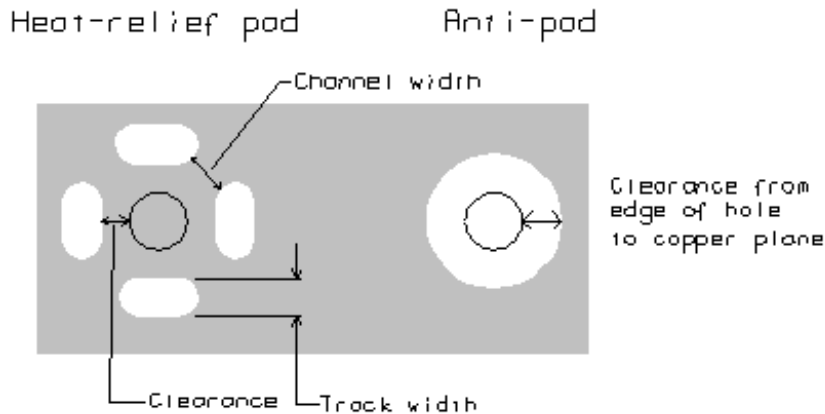

Figure 24
**Heat-relief pads** Three parameters are defined for heat-relief pads, as shown in Figure 24 and they are: **Track width**, **Clearance** and **Channel width**. The sizes entered
One parameter is defined for anti-pads as shown in Figure 24. It is the isolation distance between the edge of the hole and the copper plane.